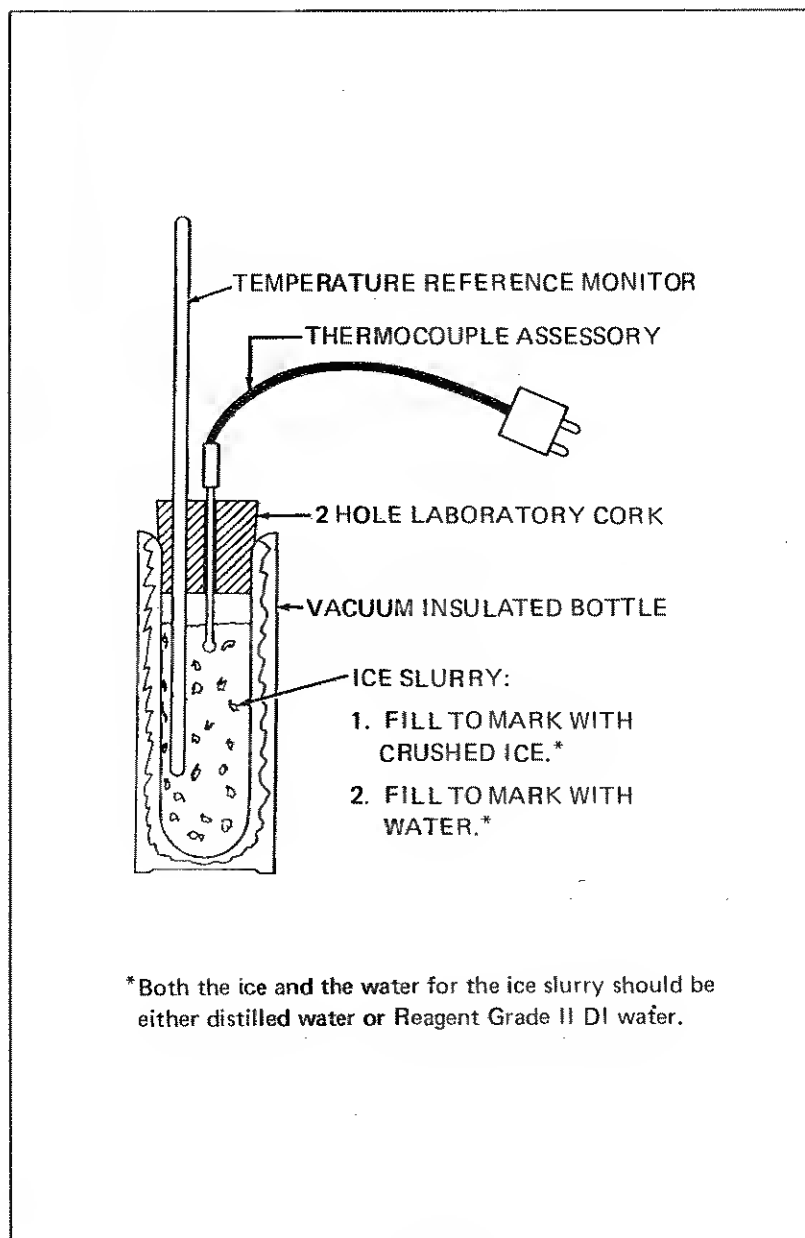

Figure 4-6. Lag Bath
19. Establish a lag bath (ice point environment) as shown in Figure 4-6 and allow the lag bath to sit for 30 minutes to reach thermal equilibrium.